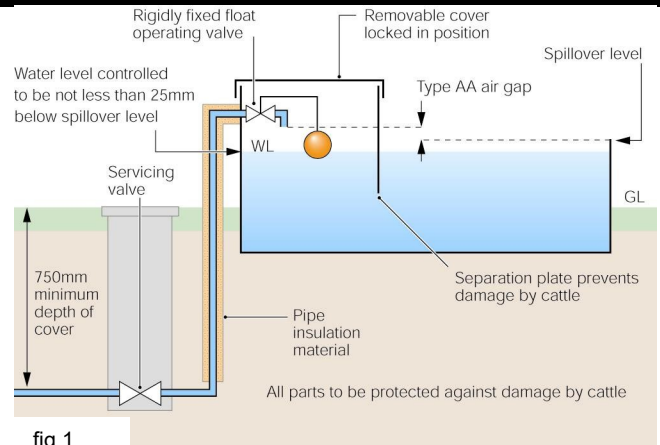
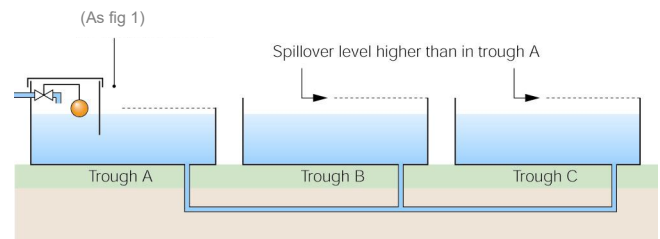

fig 1
fig 2
1. The inlet to an animal or poultry drinking trough should be provided with a float operated valve or other no less effective inlet device. The inlet device should be a AA or AB airgap installed to prevent backflow from a fluid category 5 risk and prevent any contamination of the supply pipe. The inlet device and backflow arrangement should be protected from damage. The general arrangements of the trough will be accepted as being satisfied if the animal watering trough complies with BS3445: Fixed agricultural water troughs & water fittings (see fig 1)
2. Where there are animal drinking troughs which are supplied with water from a single trough the spillover levels of the supplied drinking troughs should be at a higher level than the initial drinking trough in which the water inlet device is located. This is illustrated in fig 2 where troughs B and C are arranged at such a level that any overflow takes place at A, where trough A is arranged as in fig 1.